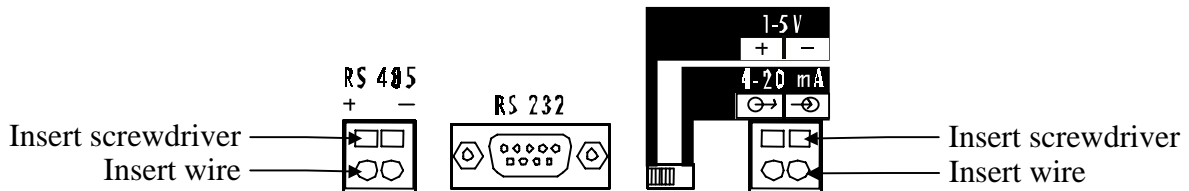

Figure 5.1
2. Insert a small flat-bladed screwdriver into the square upper hole. Push firmly until it stops. See Figure 5.1.